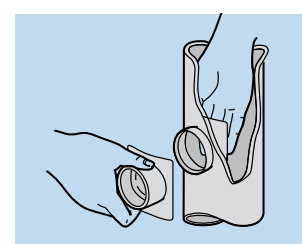

Fig.4
- Pass inner component outward through hole from the inside of the pipe and push the outer component firmly on to it ensuring that the key and keyway are lined up. Ensure engraving reads: top 91¼ for waste top 88¾ for vent (Fig.4).